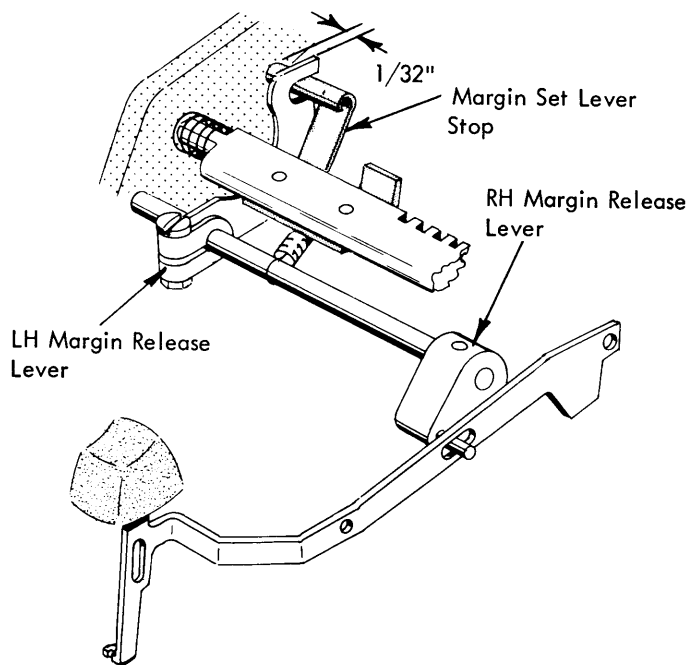

FIGURE 174. Margin Release Mechanism (723 & 725 New Style)
1. Laterally so that 1/32" of the rear end of the margin set lever stop protrudes beyond the left face of the left hand margin release lever (Fig. 174).